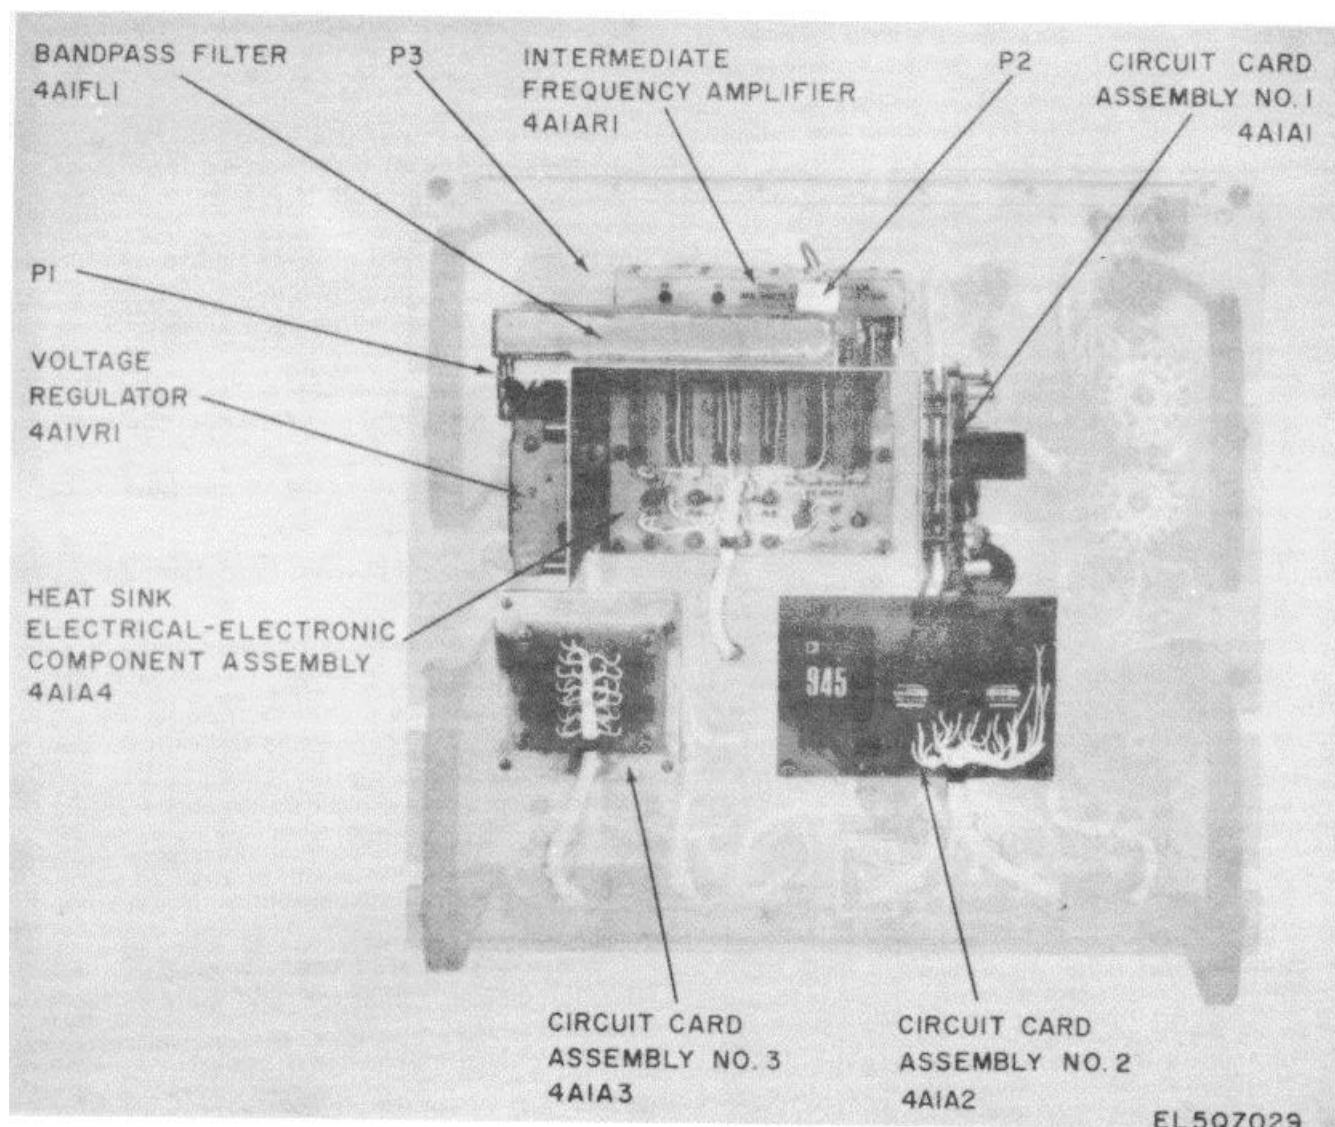

Figure 5-16. RF Modules Test Facility Front Panel, Rear View.
5-27. Replacement of Circuit Card Assembly No. 1 4A1A1 (fig. 5-16)
5-28. Replacement of Heat Sink, Electrical-Electronic Component Assembly 4A1A4 (fig. 5-16)
f. Replace the front panel in the case. 5-29. Replacement of Voltage Regulator 4A1VR1 (fig. 5-16)
5-29. Replacement of Voltage Regulator 4A1VR1 (fig. 5-16)
5-30. Replacement of Circuit Card Assembly No.2 4A12 (fig. 5-16)
5-31. Replace of Bandpass Filter 4A1FL1 (fig. 5-16)
- b. Disconnect P1 and P2 (fig. 5-16) from band-pass filter J1 and J2 respectively.
5-32. Replacement of Intermediate Frequency Amplifier 4A1AR1 (fig. 5-16)
- b. Disconnect plug P3 (fig. 5-16) from the amplifier.